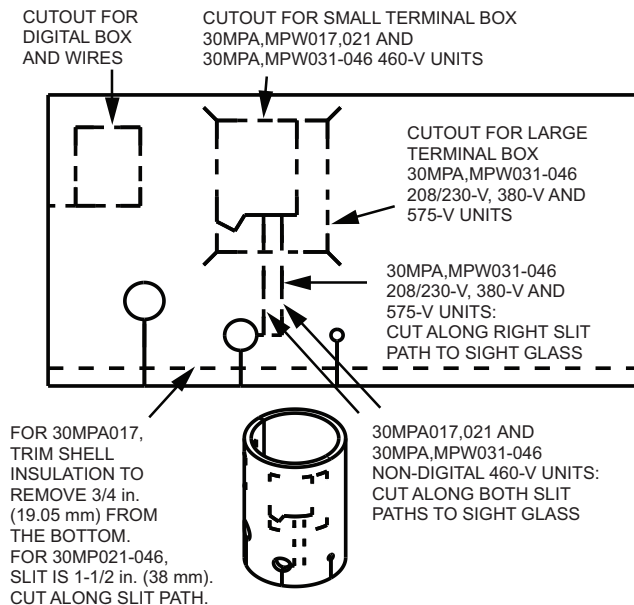

Fig. 4 — Cut Shell Insulation Before Applying
6. (30MP051-080 units: skip to Step 11.) Before applying the shell insulation piece, cut out area for the terminal box on the insulation piece. See Fig. 4.
8. For 30MPA,MPW31-046 208/230-v, 380-v, and 575-v units only: Cut along the right path for the conduit. Cut from the terminal box to the sight glass slit. See Fig. 4.
9. For units with compressor crankcase heaters installed: Make two cuts for the heater conduit, following both paths from terminal box to the sight glass slit. See Fig. 4.